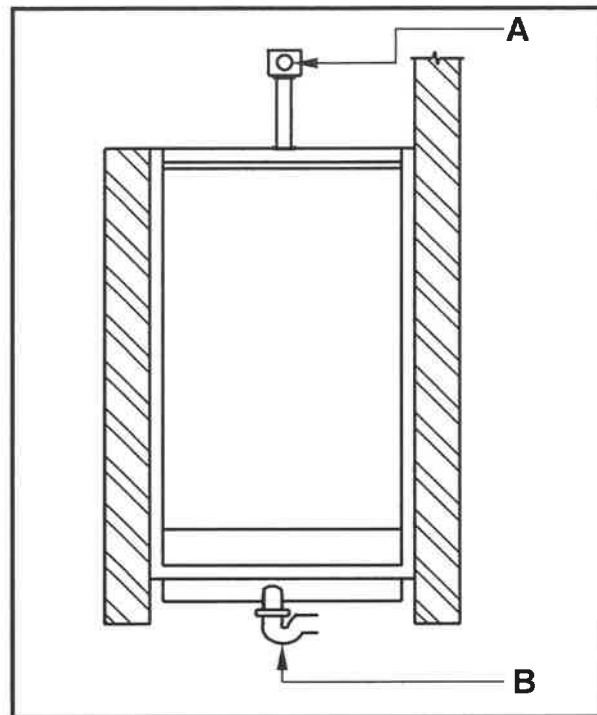

FIGURE 6.2
6.2 FIGURE 6.2 below illustrates a type of urinal.